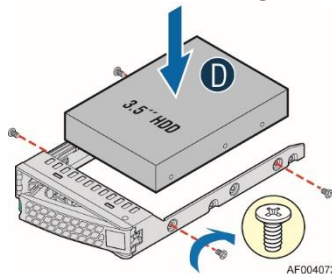

Figure 37. Installing a 3.5" HDD – inserting the HDD
3. Insert the hard disk drive into the carrier (D). Verify the connector end of the drive is located towards the back of the carrier and secure the drive to the carrier using the four screws as pictured in Figure 37.